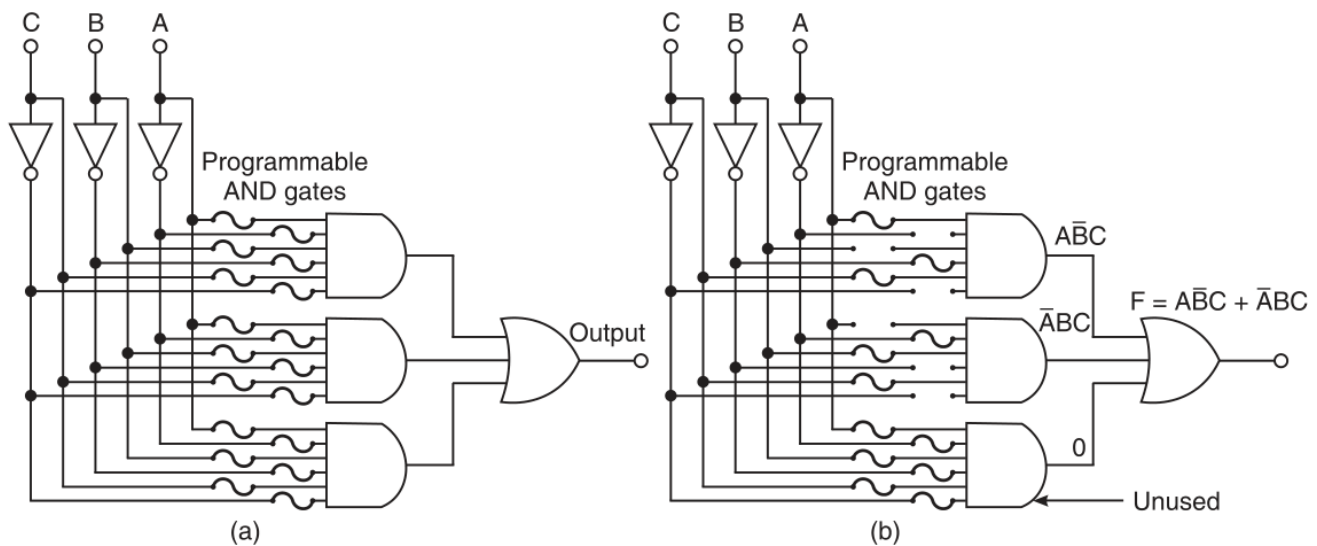

Figure 8.8 Basic structure of a PAL circuit, and implementation of $F = A\bar{B}C + \bar{A}BC$.
1. Programmable Array Logic (PAL) (Kumar, p. 500, Figure 8.8)